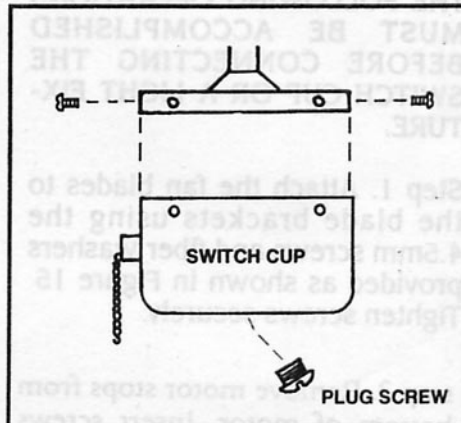

FIG. 17
Step 1. Remove existing switch cup from bottom of fan. (Fig.17)
Step 2. Remove plug screw in bottom of switch cup. (Fig.17)